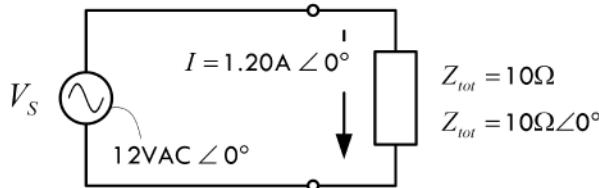

FIGURE 2.173
**Example 7:** The LCR parallel circuit in Fig. 2.173 is driven by a 12.0-VAC (RMS), 600-Hz source.  $L = 1.061 \text{ mH}$ ,  $C = 66.3 \mu\text{F}$ , and  $R = 10 \Omega$ . Find  $Z_{\text{tot}}$ ,  $V_L$ ,  $V_C$ ,  $V_R$ , and  $I_S$ , and the apparent power, real power, reactive power, and power factor. First let's find the reactances of the inductor and capacitor:
**Sinusoidal Waveforms within Parallel LC Circuit****FIGURE 2.173 (Continued)**
You can convert the voltages and current back to true sinusoidal form to get the graph shown in Fig. 2.173.